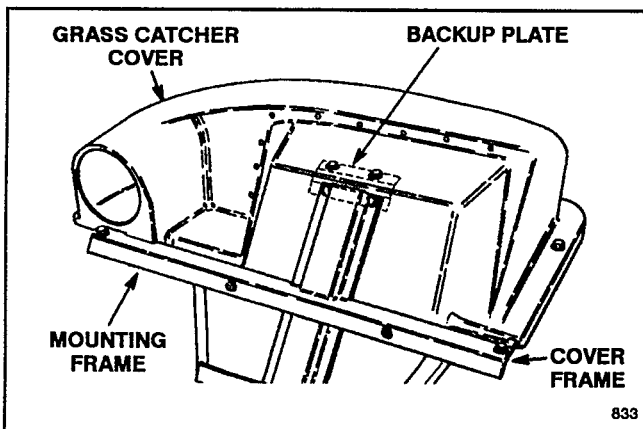

Figure 5
- Loosely secure mounting frame to grass catcher cover with backup plate, (4) 5/16 x 1" capscrews, flat-washers, and locknuts (Fig. 5 & 6). Washers to be positioned on outside of grass catcher cover with backup plate inside cover.
- Secure mounting frame to grass catcher cover frame with (2) 3/8 x 1" capscrews, flatwashers, and locknuts as shown in Figure 5. Washers to be positioned on top side of assembly. Tighten all mounting fasteners.